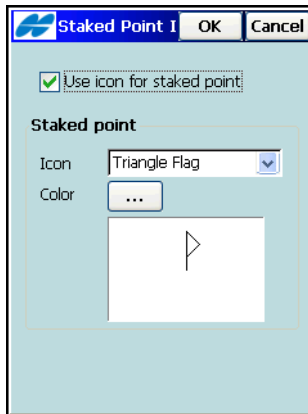

Figure 3-47. Staked Point Icon
- *Display*: opens the *Staked Point Icon* screen (Figure 3-47 on page 3-47) to set an icon for the staked point.
The *Staked Point Icon* screen selects options to display the icon for the staked point on the map (Figure 3-47).